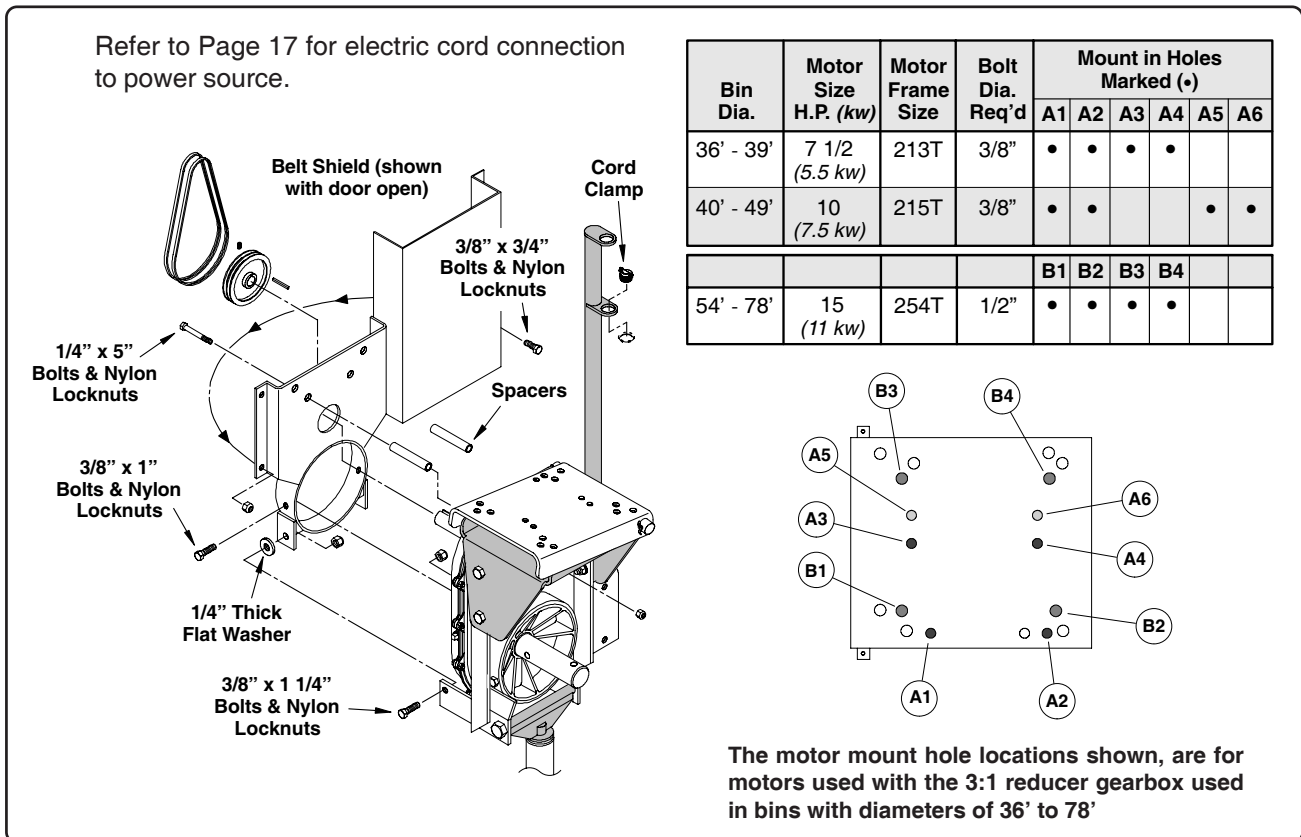

Fig. 7
7. Fasten the bottom of the shield to the mount tabs on the gearbox mount plate (See Fig. 7).
8. The spacers will be located at the upper portion of the shield (See Fig. 7). Position the spacers between the belt shield and mount plate and secure using the 1/4" x 5" bolts and nylon locknuts provided. Tighten the four bolts securing the belt shield to the gearbox, the two bottom bolts, then the spacer bolts.
9. Install the electric motor onto the motor mount plate. **Note: the motor, its mounting bolts and the motor pulley are not furnished.** Refer to Fig. 7 below for appropriate motor size and bolt hole locations.
13. Close the belt shield door and secure using two (2) 3/8" x 3/4" bolts and nylon locknuts.